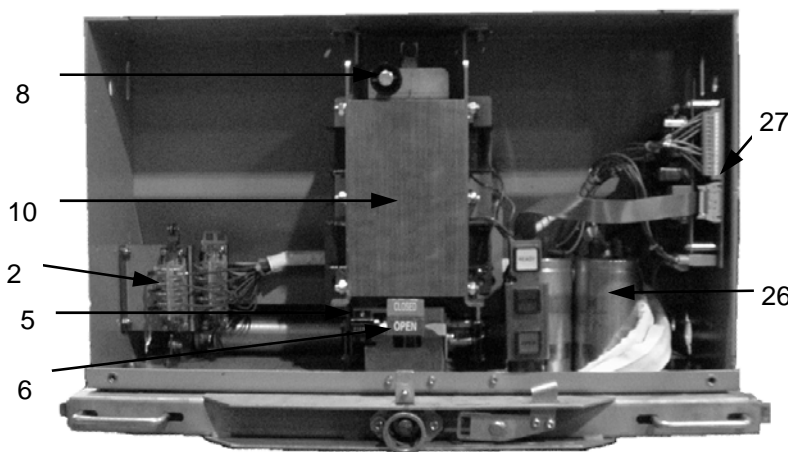

Figure 2c: View of magnetic actuator mechanism and auxiliary systems with front cover removed
5.4 STORAGE CAPACITOR (Figure 2c)